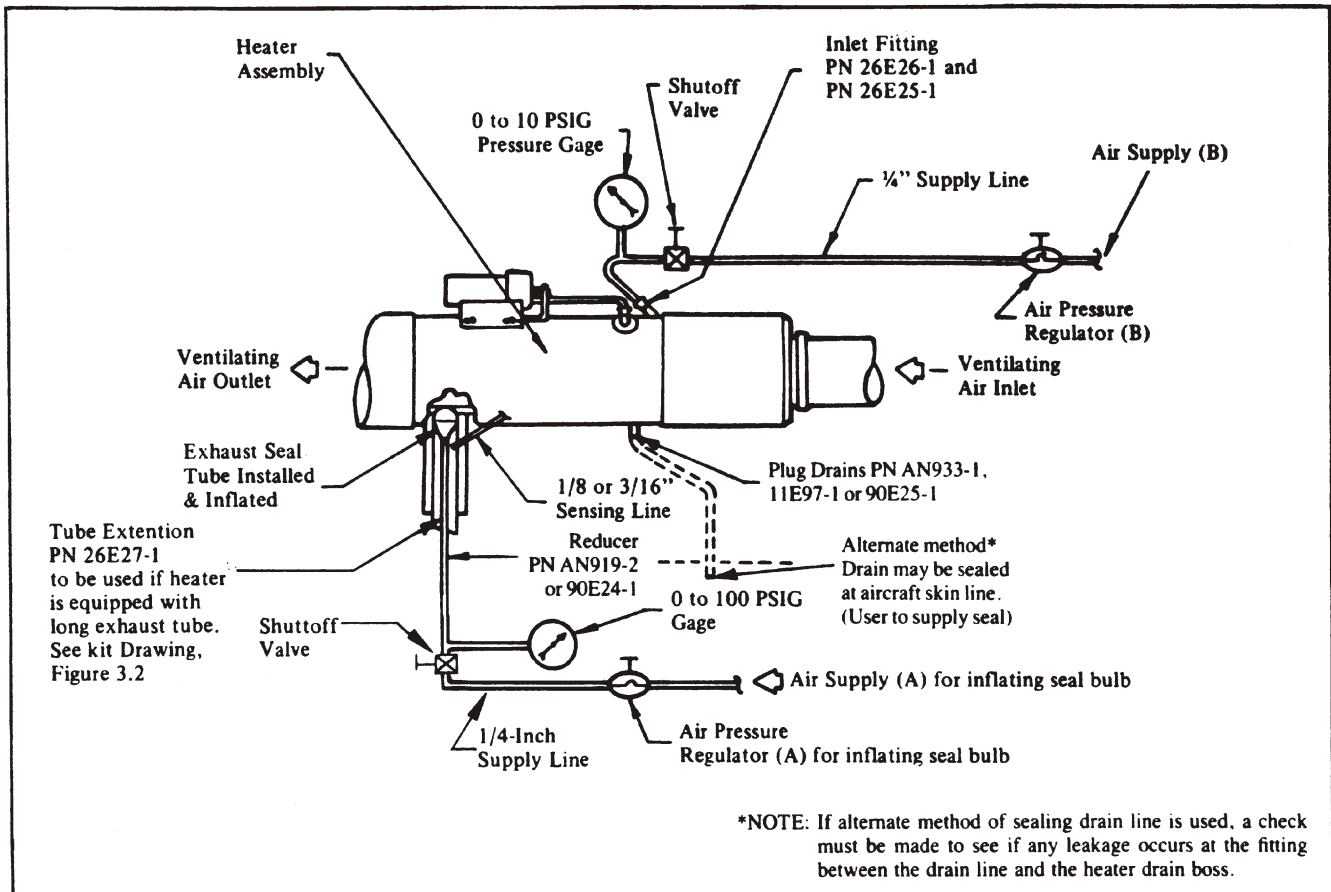

FIGURE 3-5 Test Set-Up Pressure Decay Test
3.3.7 Attach the correct size exhaust seal tube to the pressure supply system as shown in Figure 3-5. For longer exhaust tubes, the Tube-Extension Part No. 26E27-1 will be required for the seal to be fully inserted.
After the seal is properly inserted into the exhaust tube, and while holding it in place, slowly inflate the seal to 70±5 psig pressure using the regulated supply air (A) as shown in Figure 3-5. When properly installed and inflated, the seal will hold itself in place. After seal is properly installed and pressurized, close the shutoff valve on the line as shown in Figure 3-5, to check for leakage from the bulb.
3.3.8 Attach a supply line to the fitting on the Combustion Air Inlet Seal Fixture. Slowly apply 2 or 3 psig of air pressure from the regulator (B) as shown in test set-up diagram to check that exhaust seal is leaktight. Pressure in the exhaust seal, air supply (A), may be increased to 95 psi max. if required to achieve leaktight seal.
Apply 6.0±.5 psig to the combustion chamber through the air pressure supply regulator (B) as shown on the test set-up diagram. Figure 3-5.
(Figure 3-5 is identical to Figure 3-1 and is repeated here for convenience to reader)